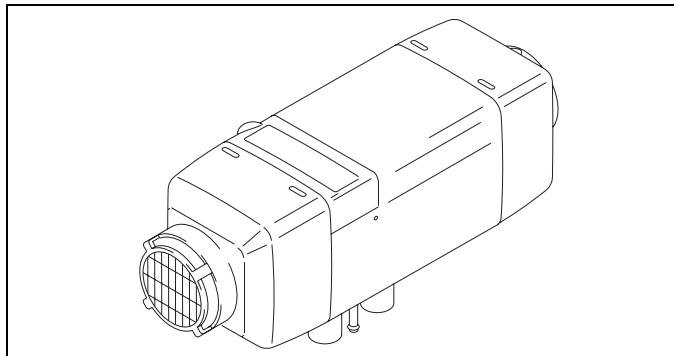

**Fig. 7: Hot air inlet and hot air outlet**
- Air short circuit between the heater's air inlet and the heater's air outlet (Figure 7)